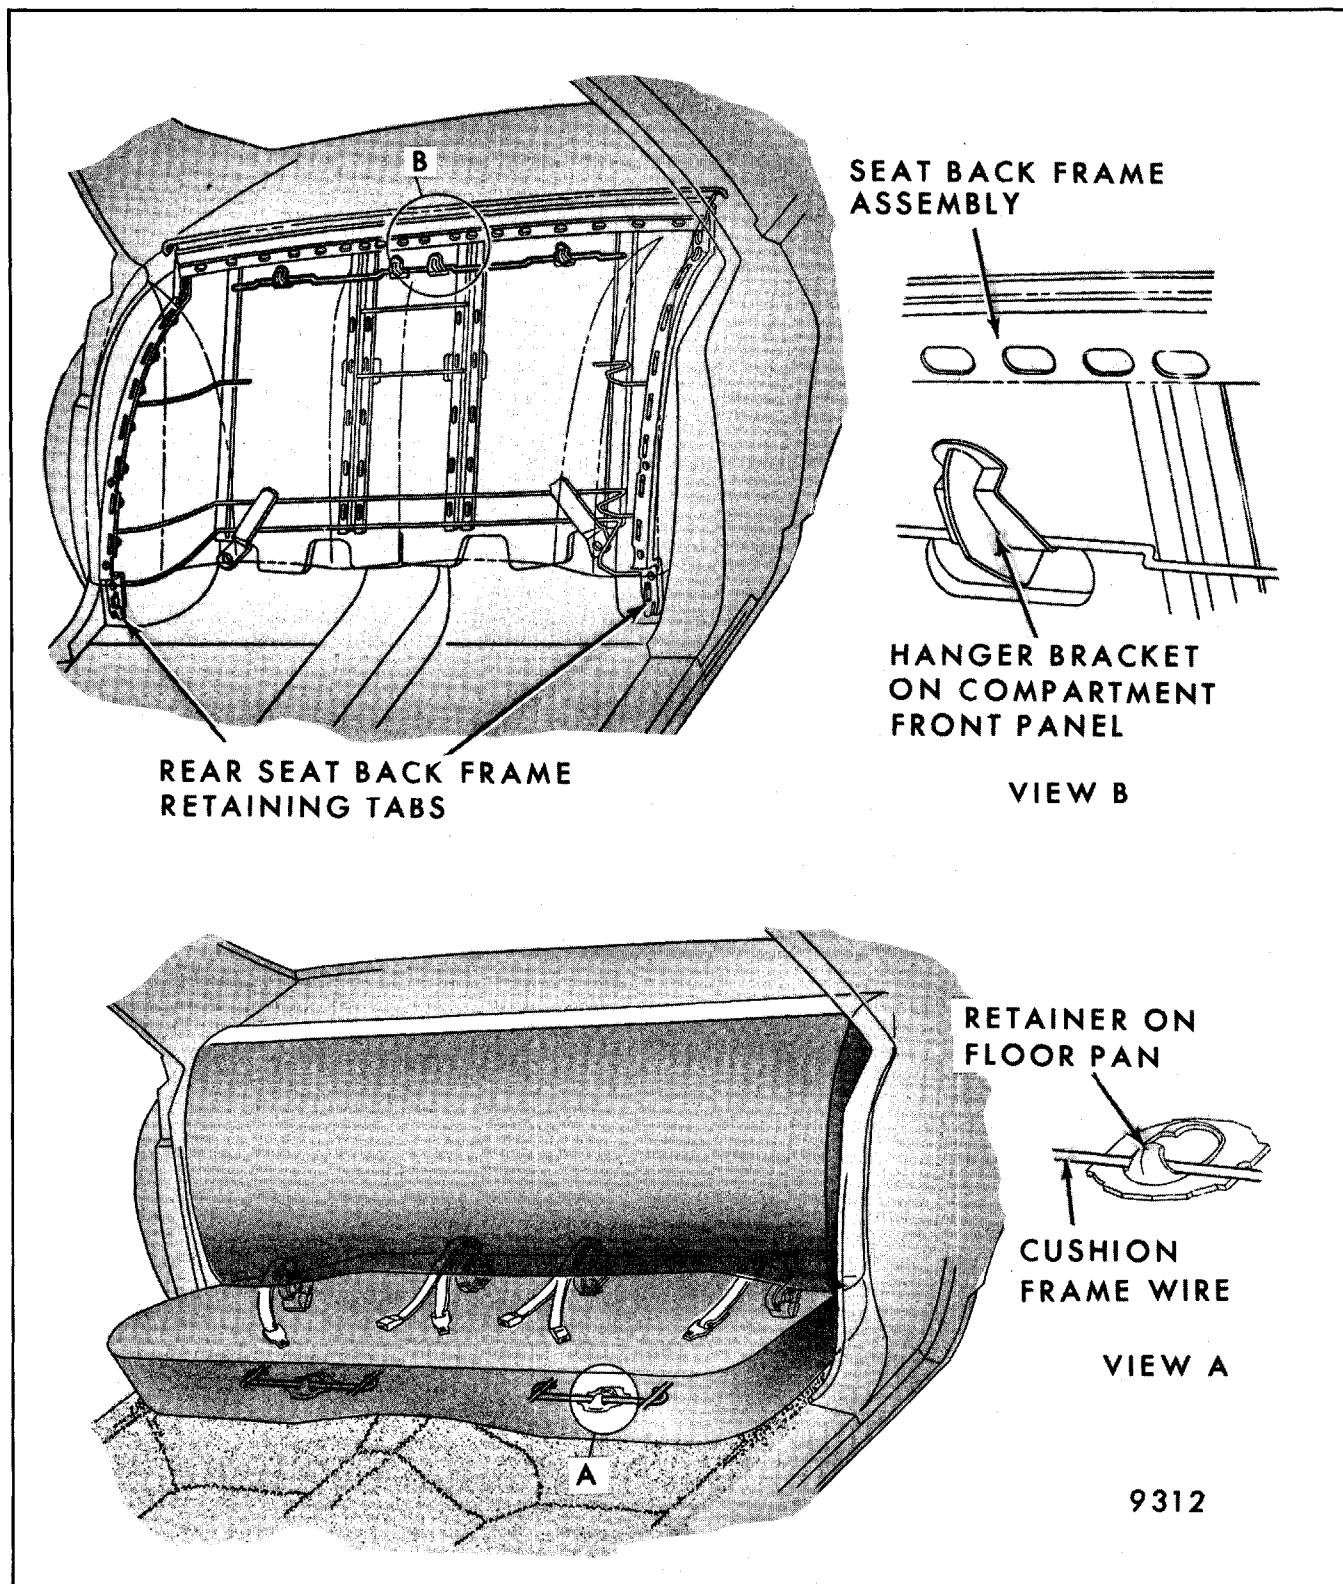

Fig. 9-94-Rear Seat Cushion and Back Installation - B,C,D,E Styles Except Station Wagon
2. Align frame wire offsets on front of seat cushion frame with retainers on floor pan (Fig. 9-94). Push seat cushion assembly rearward until offsets engage in retainers; then press down and pull cushion forward to fully engage in retainers.
rear seat outer lap belt retractors (see Figs. 9-94 and 9-96).